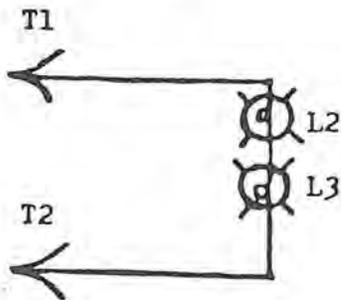
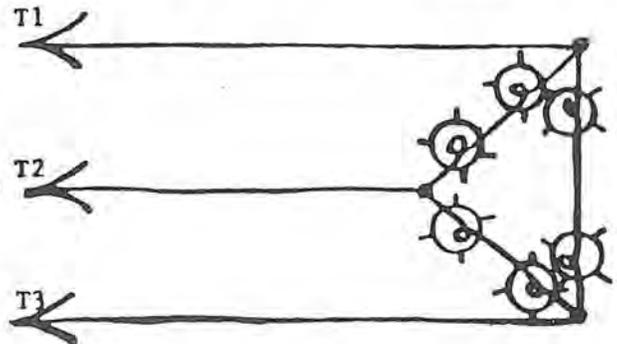

FIGURE 4.
FIGURE 5.
- Connect a "Dummy" Load per-single phase; Fig. 4, three phase; Fig. 5, or three phase 4 wire; Fig. 6.